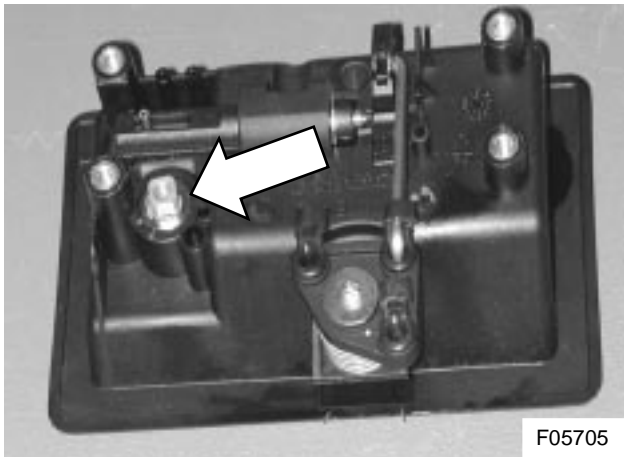

Figure 4: Cam drive, tumbler and insert
- 6) Press the tumbler and tumbler insert out of the housing through the front (see Figures 4 and 5).